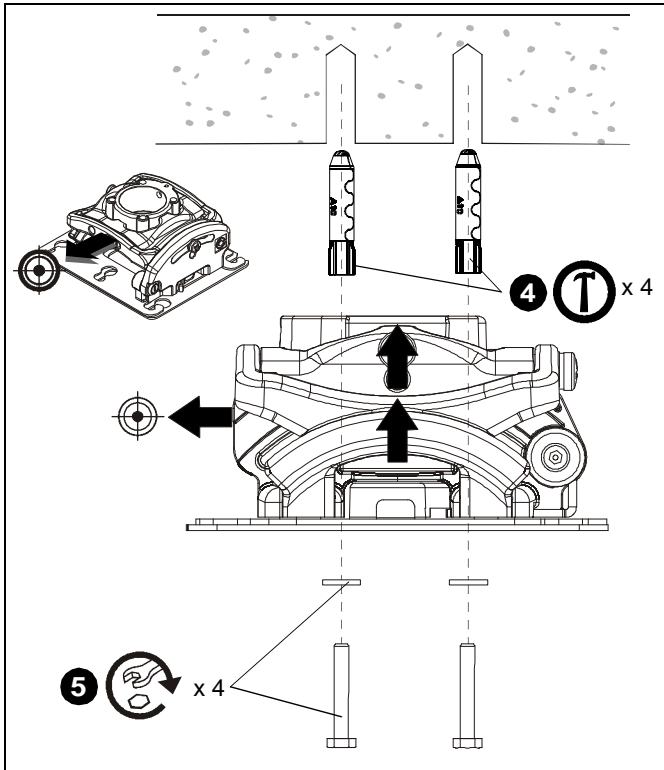

Figure 6
5. Secure RPMX to structure using four 1/4" flat washers and four 1/4" x 3" lag bolts (not included). (See Figure 6)